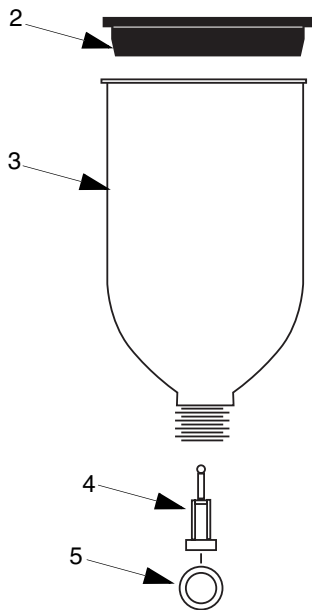

FIG. 1
1. If the fluid requires filtering, insert the fluid filter (4) into the cup outlet and install the washer (5) into the gun fluid fitting. See FIG. 1.